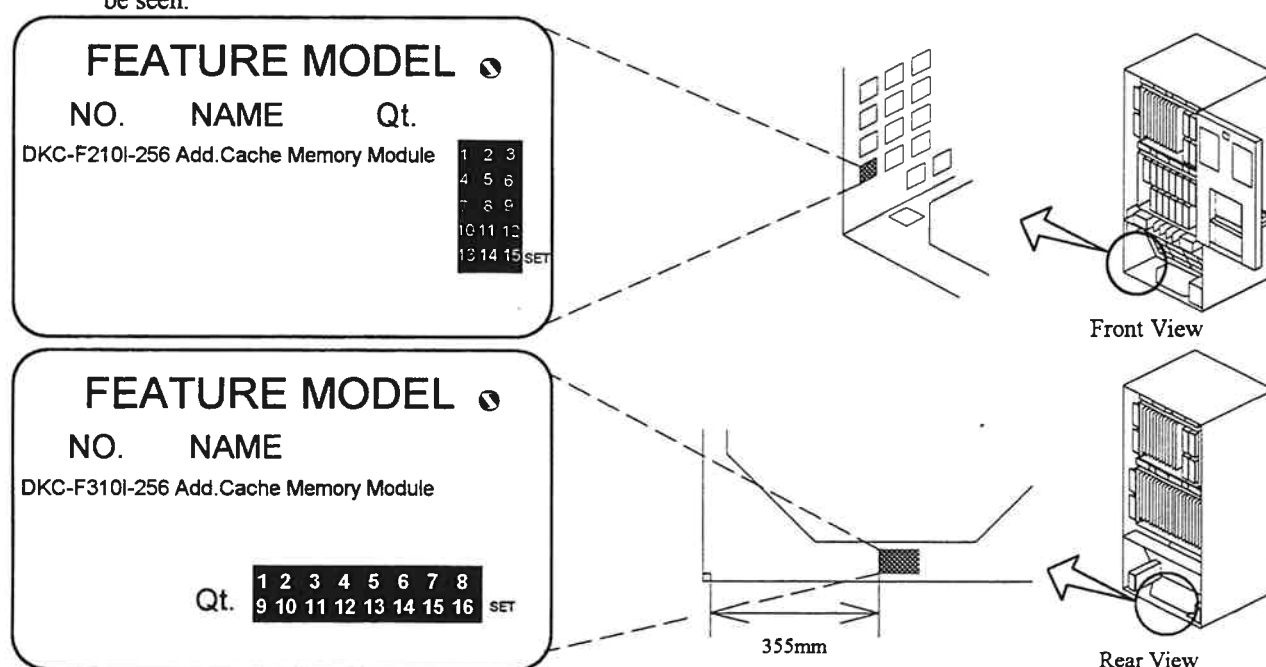

Fig. 3.3.7.4.2-12 Location of the Nameplate
- a. When the DKC-F310I-256 is to be newly installed, attach a nameplate according to Figure 3.3.7.4.2-12. When the nameplate is already attached, go to the next step.
- b. Refer to Fig. 3.3.7.4.2-12 and Table 3.3.7.4.2-11 to paint out unnecessary numbers and wipe off a necessary number painted previously so that the "Qt." marking for the corresponding DKC-F210I-256/DKC-F310I-256 can be seen.